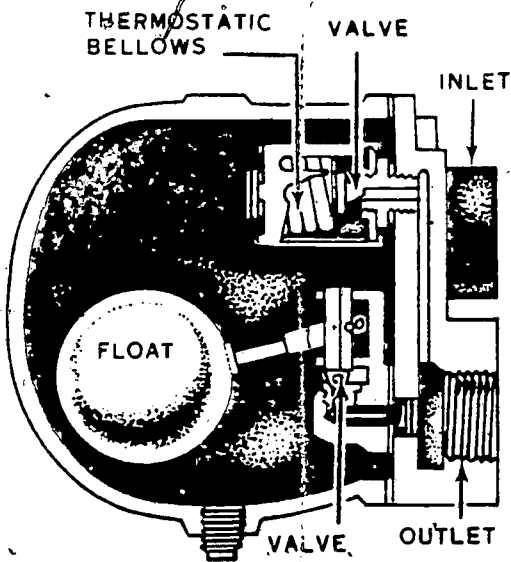

Figure 58. An example of a float thermostatic trap.
19. *Float thermostatic trap.* The float thermostatic trap operates on the principle of the float trap and the thermostatic trap. Practically the same maintenance is required. A typical example of the float thermostatic trap is shown in figure 58. The thermostatic bellows acts as an air eliminator.